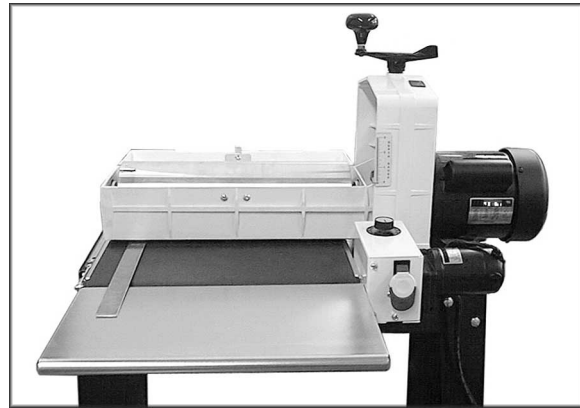

Figure 23
3. Insert the gauge between the drum and conveyor bed at the outer end of the drum (Figure 23). With the dust cover open, lower sanding drum while slowly rotating drum by hand until the drum lightly contacts the thickness gauge.